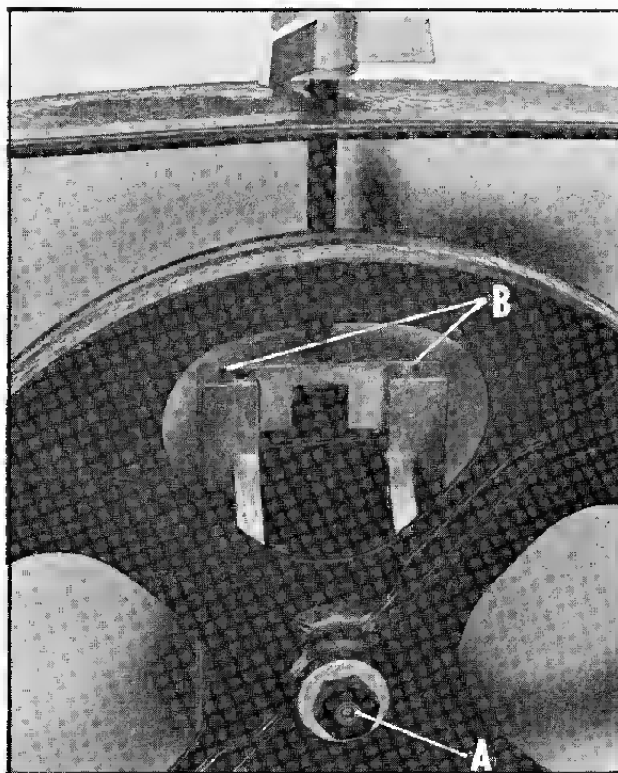

Fig. 25
The upper band saw wheel runs on a bronze bushing. Lubricate occasionally through oiler (A) Fig. 25, using light machine oil.
The sliding ways (B) Fig. 25, of the upper wheel assembly should be oiled occasionally so that they operate freely.